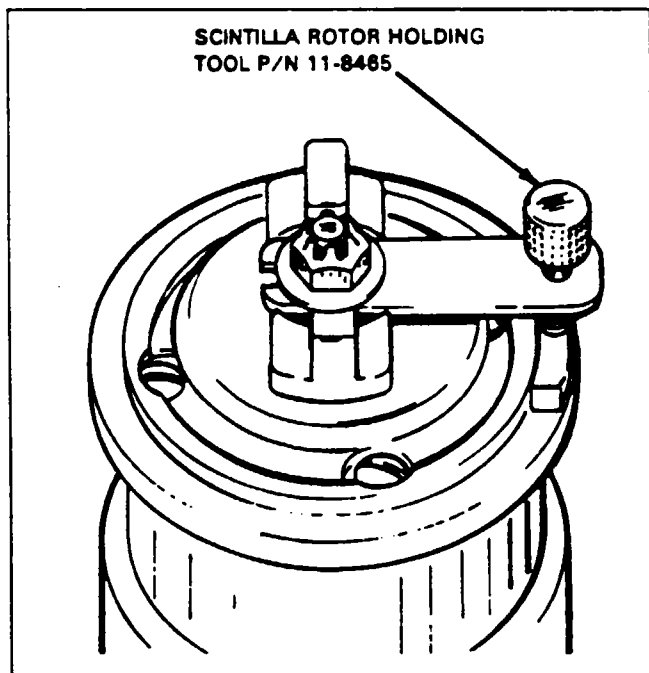

Figure 74-3. Rotor Holding Tool Installed
- A. Loosen the nut securing the drive plate to the magneto shaft sufficiently in order to install the Scintilla 11-8465 Rotor Holding Tool under the nut and flat washer as shown in Figure 74-3. Tighten the nut securely.